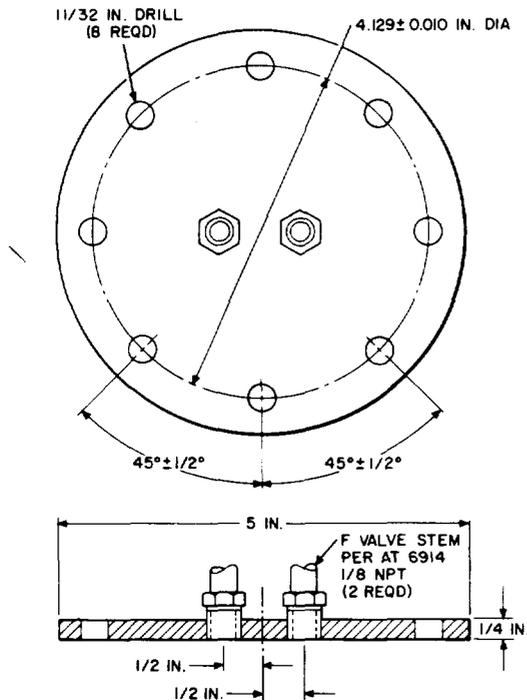

Fig. 3—Test Plate
**3.01** Remove the protecting cover from the feed horn, and bolt the test plate to the feed horn in accordance with Fig. 3, using a standard O-ring gasket.